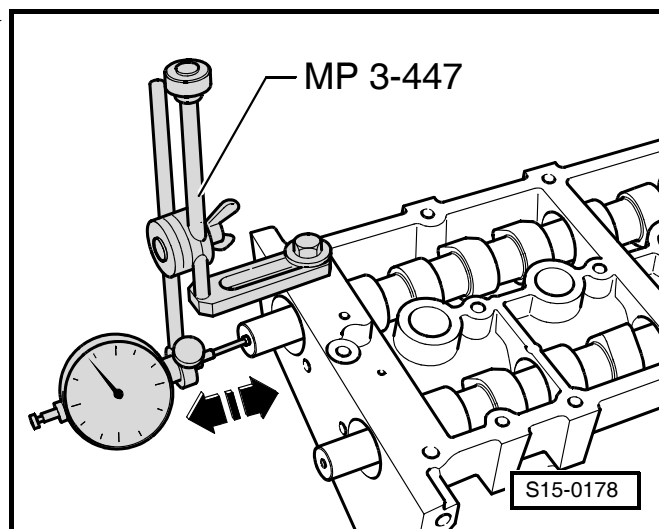

Fig. 3: Camshaft identification
- ☐ Identification ⇒ Fig. 3 in **15-2** page 3